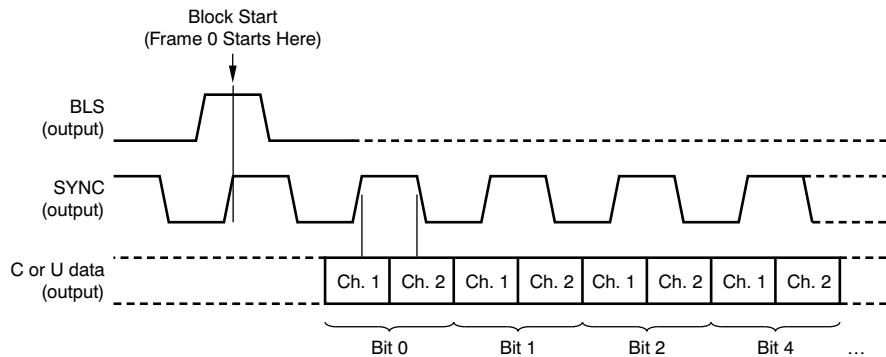

Figure 16. DIR Channel Status and User Data Serial Output Format Via the GPO Pins
The decoded audio data, along with the internally-generated sync clocks, may be routed to other function blocks, including Port A, Port B, and/or the DIT. The decoded channel status and user data are buffered in the corresponding Receiver Access (RA) data buffers, then transferred to the corresponding User Access (UA) data buffers, where it may be read back through either the SPI or I²C serial host interface. The contents of the RA buffers may also be transferred to the DIT UA data buffers; this transfer is illustrated in Figure 10. The channel status and user data bits may also be output serially through the general-purpose output pins, GPO[4:1]. Figure 16 illustrates the output format for the GPO pins when used for this purpose, along with the DIR block start (BLS) and frame synchronization (SYNC) clocks. The rising edges of the DIR SYNC clock output are aligned with the start of each frame for the received AES3 data.